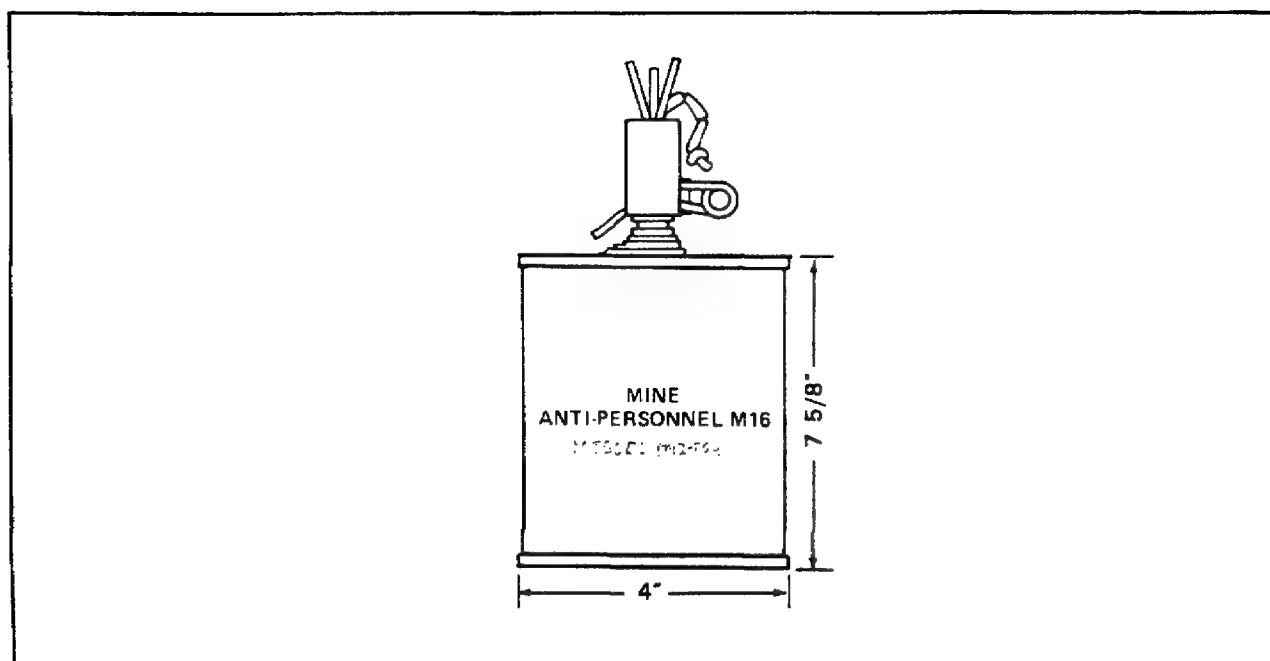

Figure 53. Mine, Antipersonnel, Fragmentation Bounding, M16.
**Mine, Antipersonnel, Fragmentation Bounding, M16.** The M16 mine (Figure 53) is sometimes referred to as the "tomato can," because the outer case is made of lightweight metal and it looks like a tin can. It is equipped with a fuze that can be activated by pressure or by a trip wire. When the fuze is activated, the inner projectile is ejected. When the projectile reaches a height of between one and two meters, it detonates, throwing fragments in all directions.